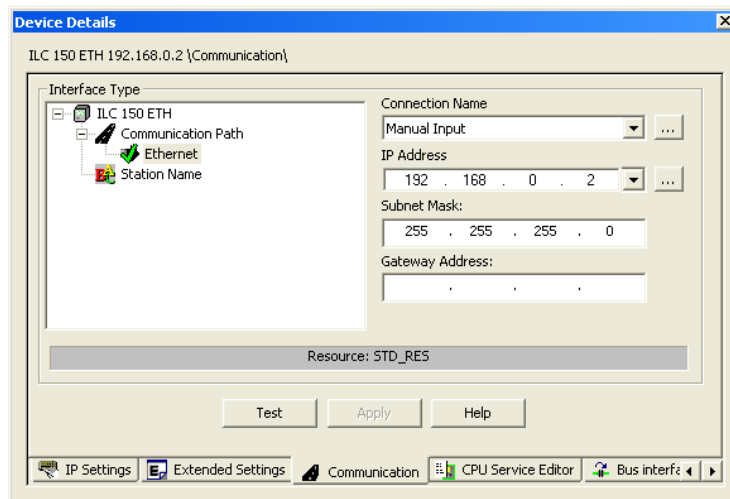

Figure 5-6 Testing the communication path
- Test the communication path set. For this purpose, change to the "Communication" tab (see Figure 5-6).